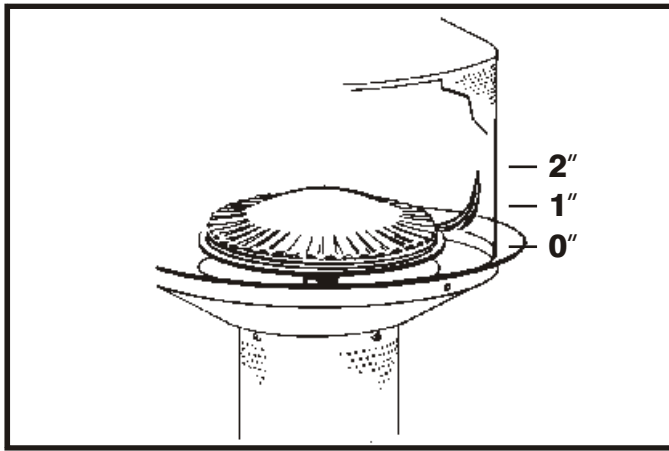

Figure 1. Normal Flame Position
4. The purpose of the **Floor Clamp Kit** is to provide supplementary safety and stability for our portable heaters. Floor Clamp should be used to secure portable patio heaters to help prevent tip over. Floor Clamp Kits are provided with each heater. If for some reason the Floor Clamp Kit is missing it is available from the factory at no charge. For questions regarding the Floor Clamp Kit contact Infrared Dynamics, Inc. toll free at (888) 317-5255.
- d. The flame pattern at the emitter grid should be visually checked whenever heater is operated (see figure 1.). If flames extend more than 1/2 inch beyond surface of the emitter grid or black soot is accumulating on the emitter grid or reflector, the heater should be turned off immediately. The heater should not be operated again until repairs are made.